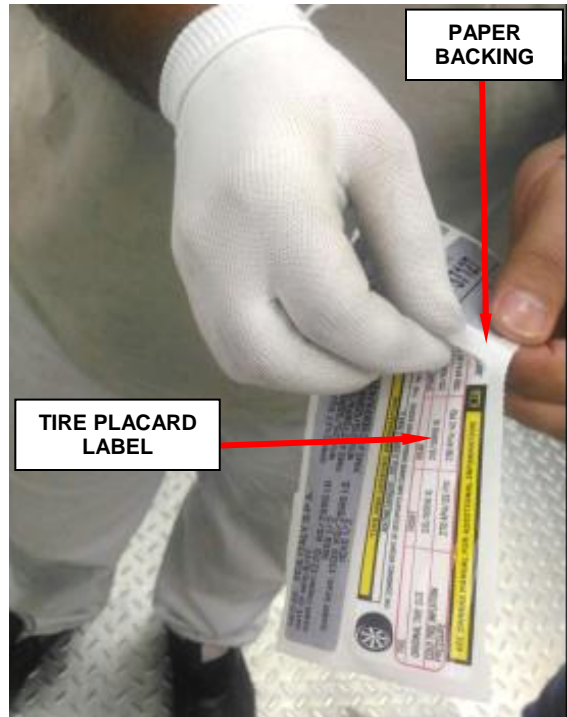

Figure 5 – Remove Tire Placard Label From Paper Backing
- 7. Remove the **new** tire placard label from the paper backing (Figure 5).